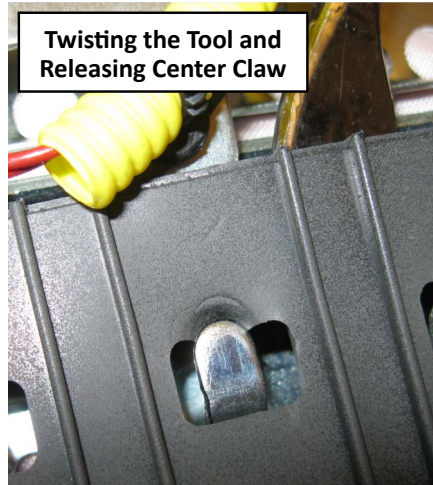

**FIGURE1**
**Step 3-** Confirm the orientation is correct as outlined earlier in this bulletin. Refit the original cover, if reusable, onto the replacement module assembly. Make sure all the claws are fully engaged (see Figure 1 above). When properly installed, the cover should feel loose with a small amount of freeplay. If the cover is tight (no freeplay or looseness), it most likely is not fully engaged onto the claws.